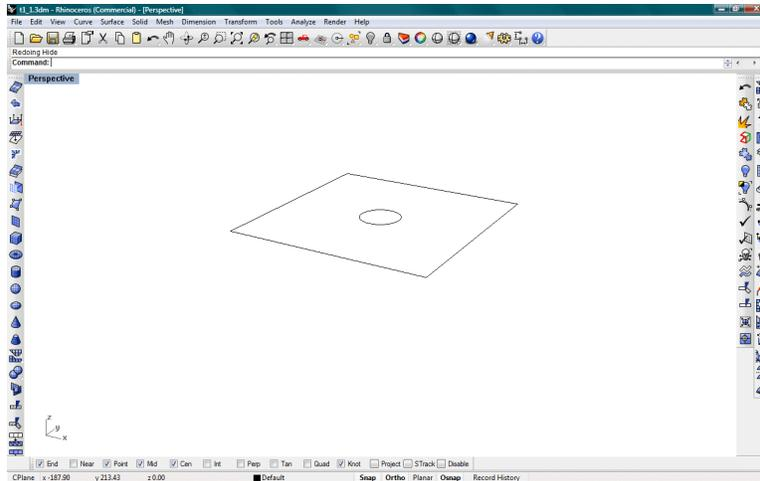

Figure 48: The highlighted square and circular curves represent the Naked Edges of the selected Polysurfaces.
26. Select the **Curve | Curve From Object | Duplicate Border** menu item. Click on the box and then on the cylindrical part of the model followed by **<ENTER>**. This operation extracted a square and a circular curve from the model. Hide the box and the cylinder to only see the two extracted curves shown in Figure 48.